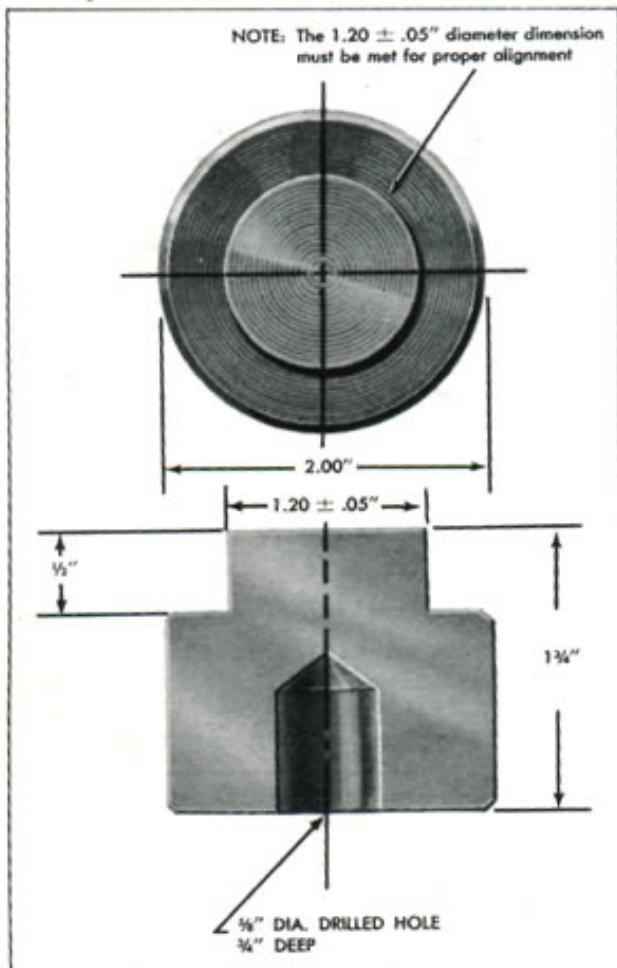

Fig. 2—Hood Lock Alignment Tool
1. Align hood in relation to opening and fenders. An approximate gap of 1/8 of an inch should exist between the hood and adjacent body. Fore and aft adjustment is accomplished using the slotted holes in lower portion of the hinge strap. The upper surface of the hood should, of course, be as nearly flush with adjacent surfaces as possible. The forward portion of the hood is adjusted to a flush position by the addition of shims under the hinges (see Fig. 2 in Manual). The rear portion of the hood is adjusted through the catch bolts. Do not make adjustment of the rear portion of the hood at this point until the lock assemblies have been aligned (see Step 2).
- Fabricate a tool as shown in Figure 2 from a 2" diameter x 1 1/4" long piece of steel, plastic or hard wood.